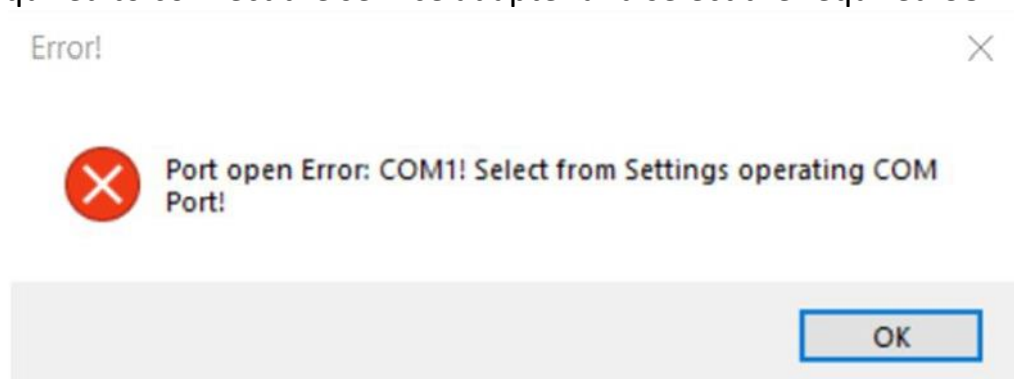

fig. 4.5. Error message
- If there is no connected service adapter, the message will appear on the screen (fig. 4.5);